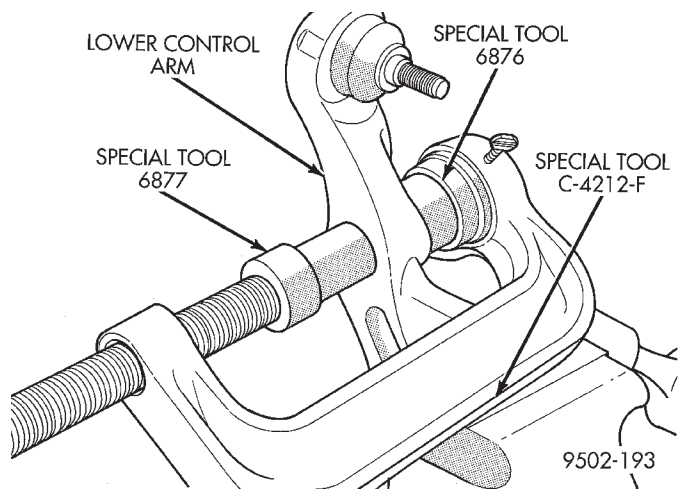

Fig. 92 Removing Clevis Bushing From Lower Control Arm
(1) Remove lower control arm assembly from vehicle. See Lower Control Arm Removal in this section of the service manual for the required removal procedure.
(2) Install Bushing Remover, Special Tool 6877 and Bushing Receiver, Special Tool 6876 on Special Tool C-4212-F.
(3) Install lower control arm on Special Tools assembled for removal of the clevis isolator bushing. Be sure Special Tool 6876 is square on lower control arm and Special Tool 6877 is positioned correctly on clevis bushing (Fig. 92).